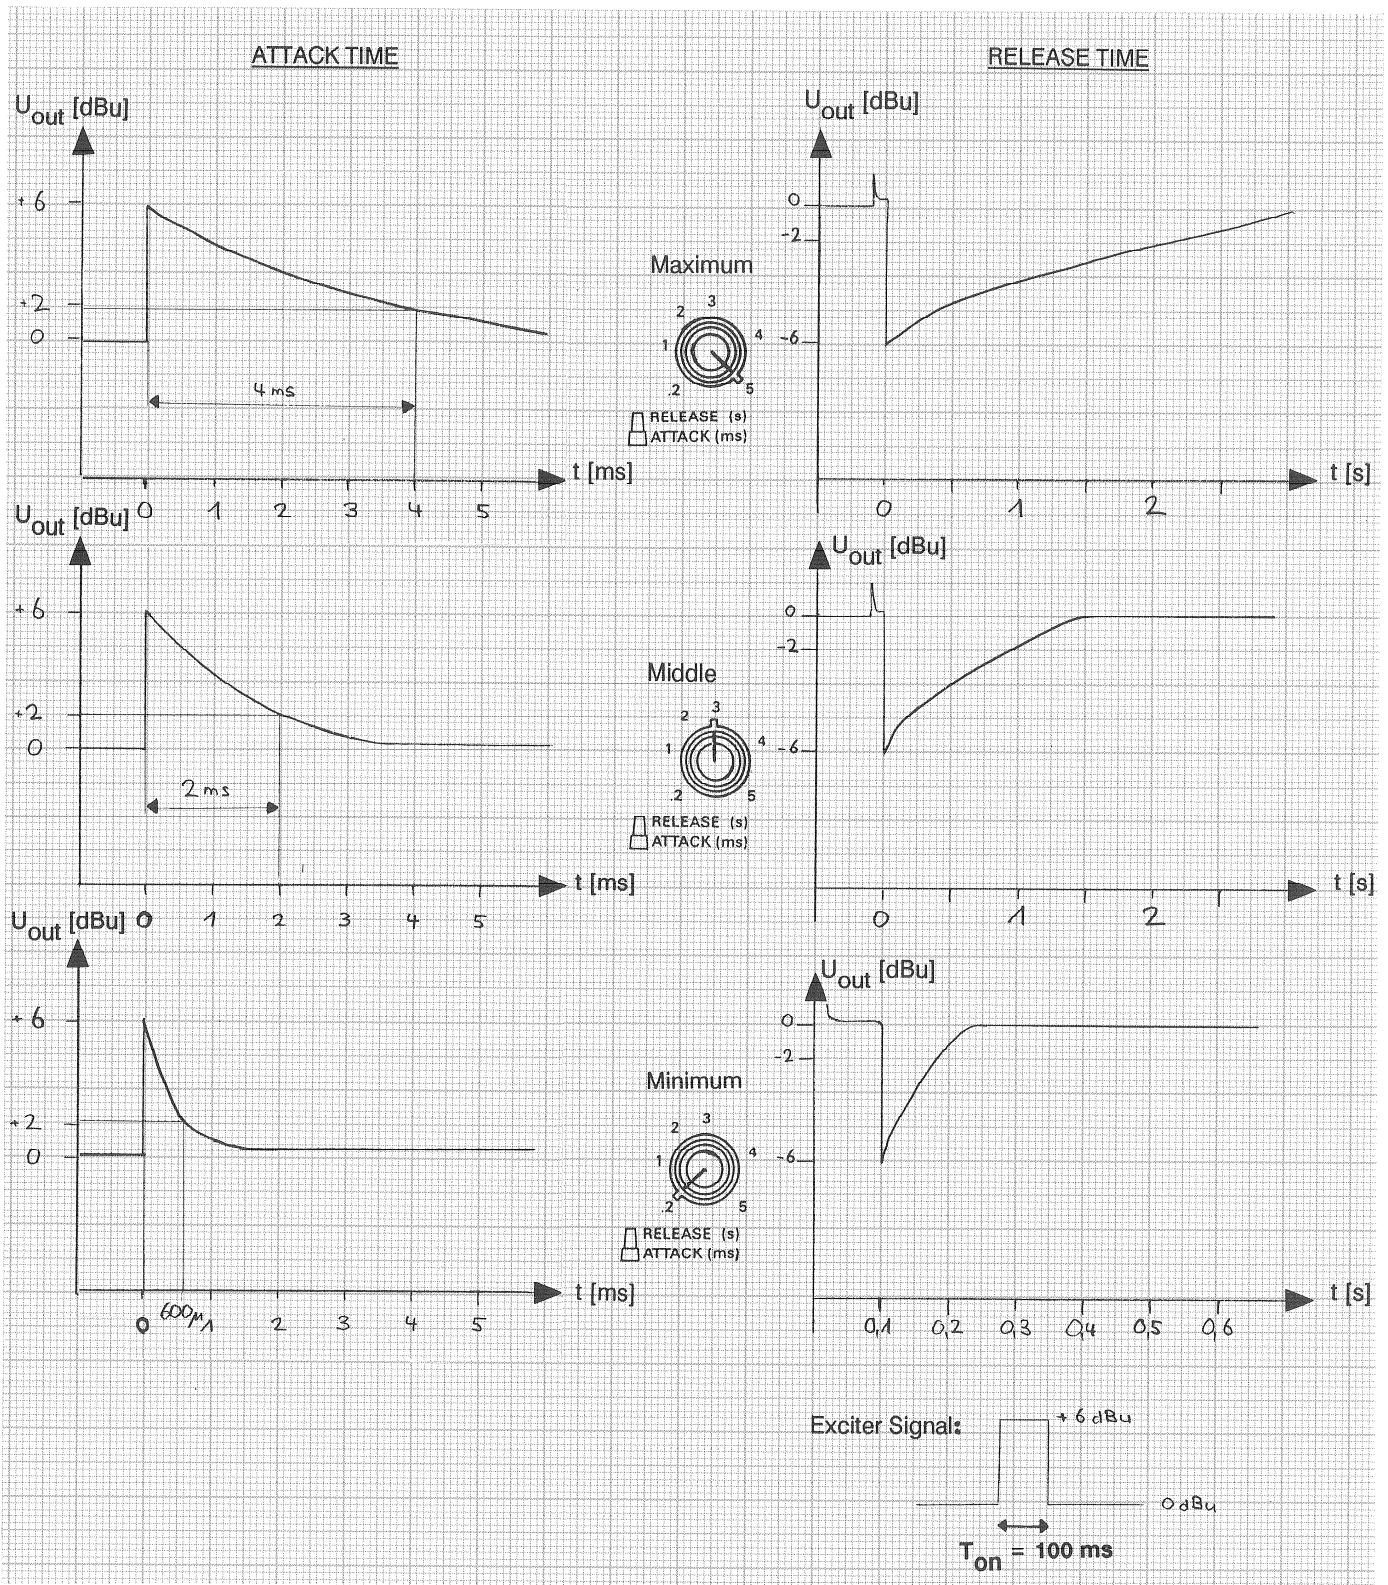

Fig. 3: The compressor/ limiter - characteristics at three different values of the attack- and release time.
**ATTACK:** Compressor attack time. Adjustable range 0.2 to 5 ms. (see fig. 3)
**RELEASE:** Compressor decay time. The scale refers to a static 6 dB gain reduction and LIM setting of ratio. The actual decay time is program dependent and optimized, thus differences to the pot position may occur. (see fig. 3)